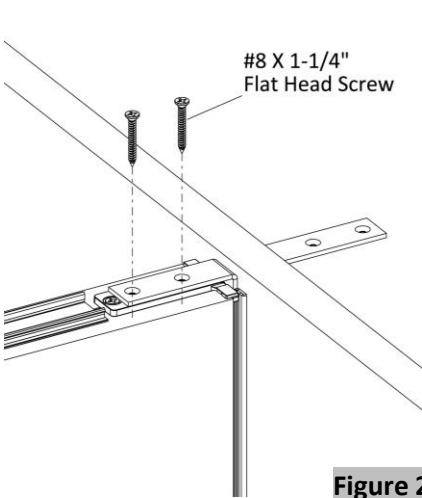

Figure 2
- Drive two #8 X 1-1/4" Flat Head Screws through the holes in the gallery panel top bracket into the standard panel, (Figure 2).